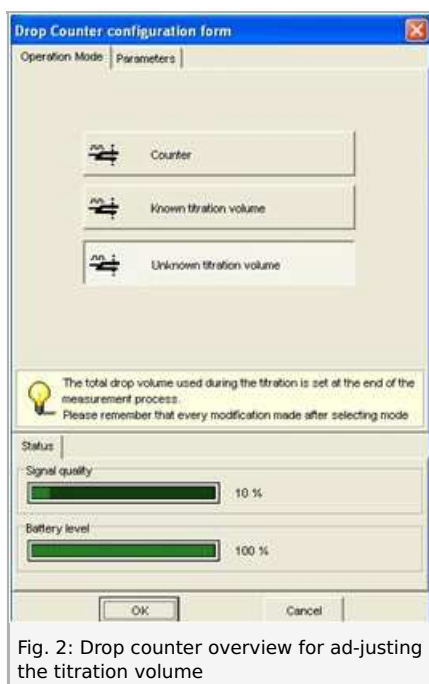

Fig. 2: Drop counter overview for adjusting the titration volume
- Switch the two Wireless-Links on and wait until the program identifies the measurement sensor. Select "Unknown titration volume" via the drop counter overview (Fig. 2).